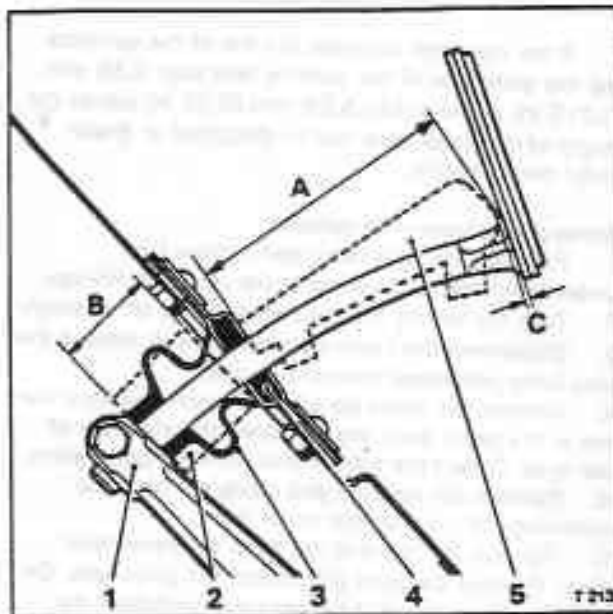

Fig. G10-5 Brake pedal height settings
Brake pedal height setting (see figs. G10-5 and G10-6)
1. Locate the setting gauge into the brake pedal stem hole in the end of the pedal lever (see fig. G10-5). Raise the pedal lever until the gauge touches the underside of the toeboard seal housing.
Brake pedal height – To check (see fig. G10-5)